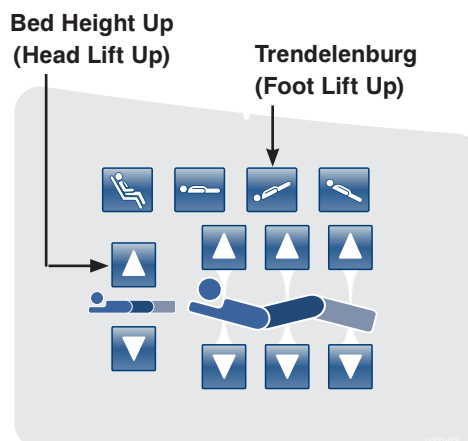

Figure 10: Head Siderail Control Panel (Right Side Shown)
8. Raise the bed height to 20 inches measuring from the top of the seat section to the floor. Press the **Bed Height Up (Head Lift Up)** and **Trendelenburg (Foot Lift Up)** buttons as shown in Figure 10.